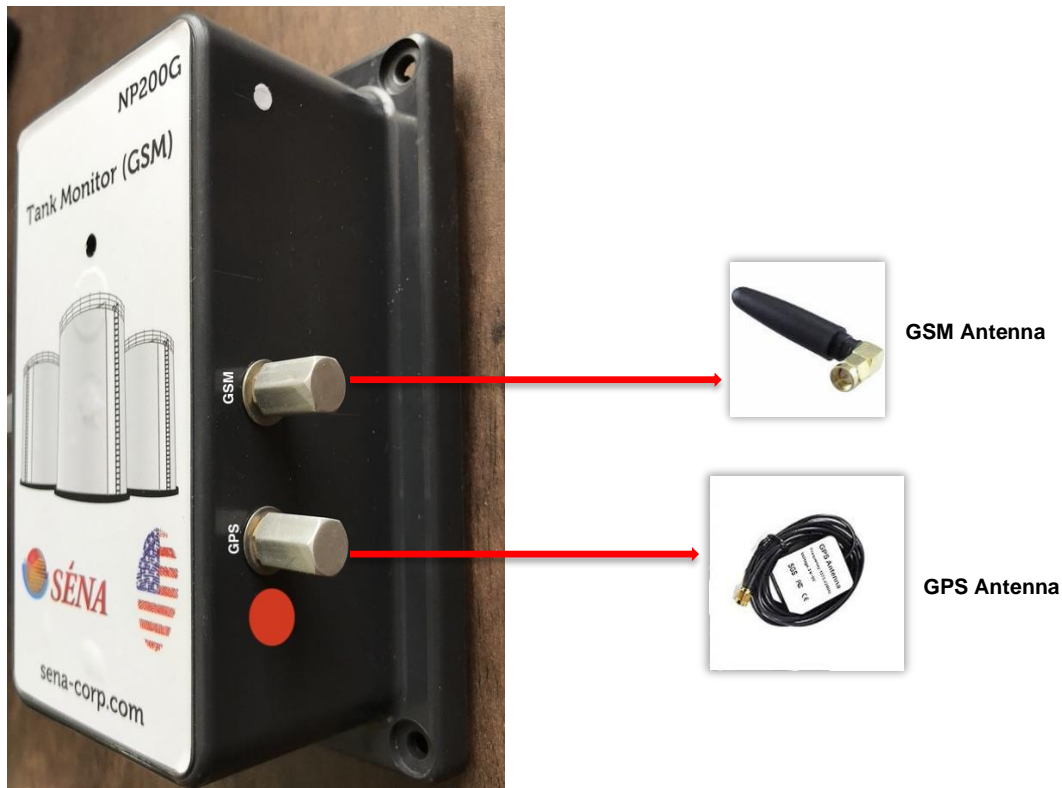

Figure 2
5. Remove the caps for attach GSM and GPS antenna. Attach the appropriate antenna's to connector as shown in figure 2.